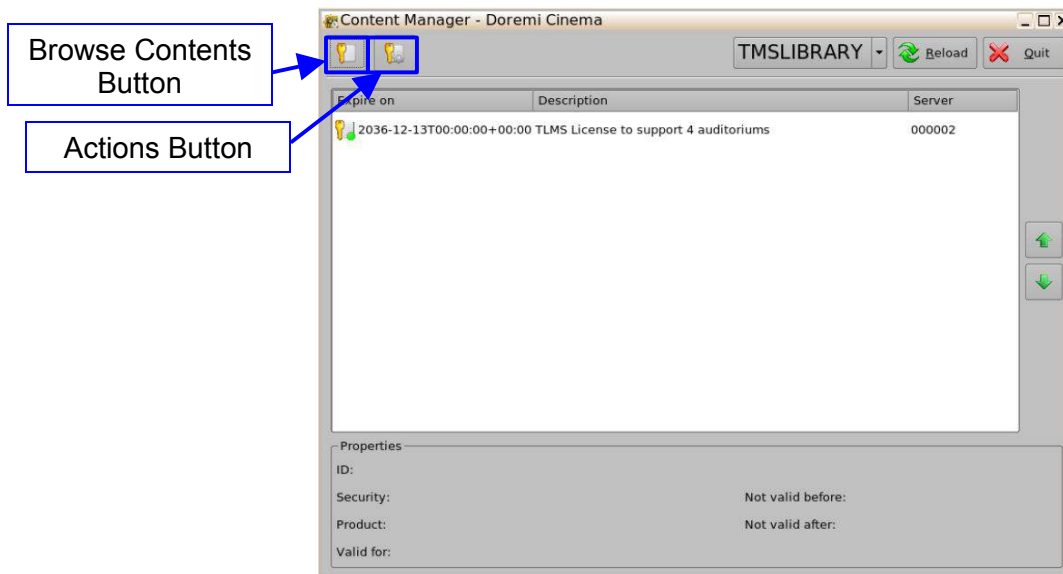

Figure 115: Content Manager – Licenses
- **Browse Contents Button:** Allows the user to go back to the home page or switch through CPL's, KDMS's, SPL's, and License windows (Figure 115).